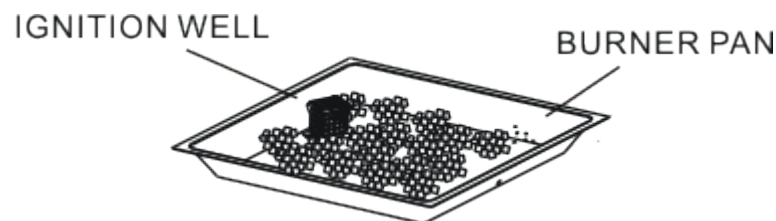

Figure 11
11. Pour ALL the provided media (fire ice) into the burner pan. The burner MUST be completely covered to ensure the appliance functions properly and safely. Remove any fire ice on top of the ignition well. See figure 11.